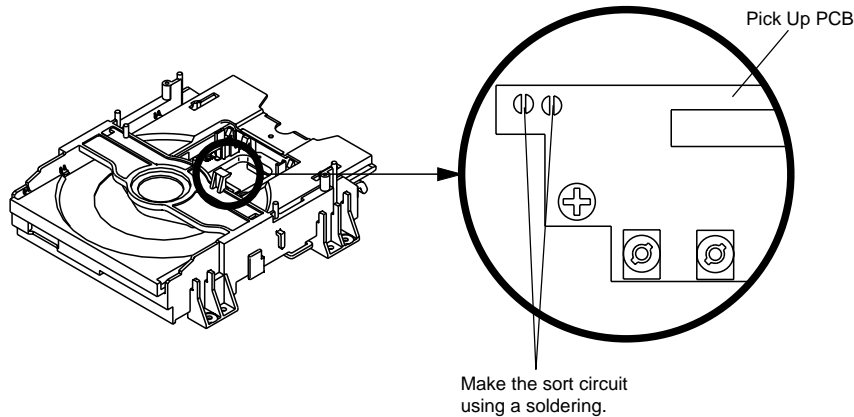

Fig. 1
Before removing Pick Up PCB and DVD PCB connector, make the short circuit on the position as shown **Fig. 1** using a soldering. If you remove the DVD Deck with no soldering, the Laser may be damaged.
1. Remove the TV/DVD/VCR block from the main unit and the **Fig. 1** below can be seen.